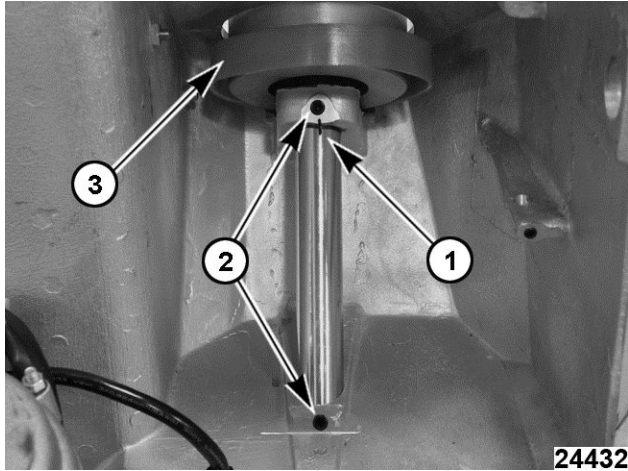

Fig. 27
8. If reusing the shaft, mark the housing and shaft (1, Fig. 27).
9. Loosen set screws (2, Fig. 27) securing the knife pulley assembly.
2. Snug the set screws (2, Fig. 27).